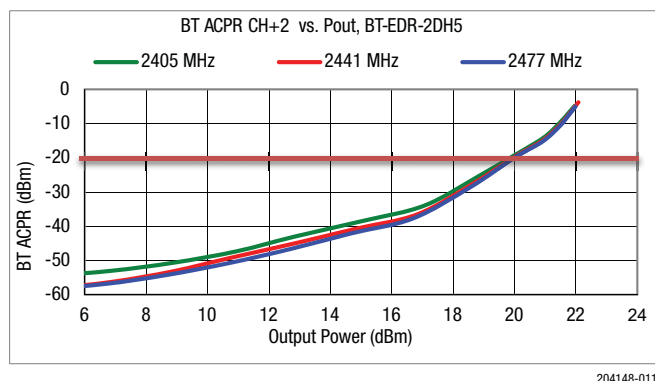

Figure 11. BT ACPR CH+2 vs Pout, BT-EDR-2DH5
The SKY66403 in high-linearity (HL) mode benefits from excellent adjacent channel power (ACP) performance in Bluetooth EDR applications. Typical ACP measurements for both EDR modulations ($\pi/4$ -DQPSK with 2-DH5 packets and 8-DPSK with 3-DH5 packets) are shown in Figures 11 through 14.